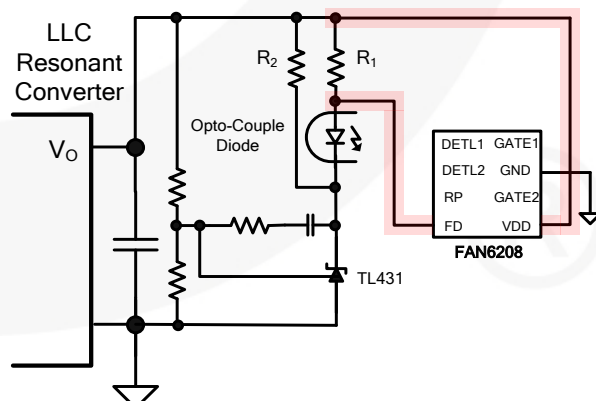
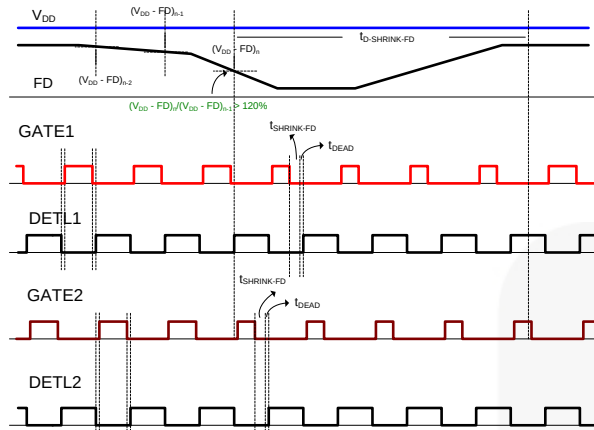
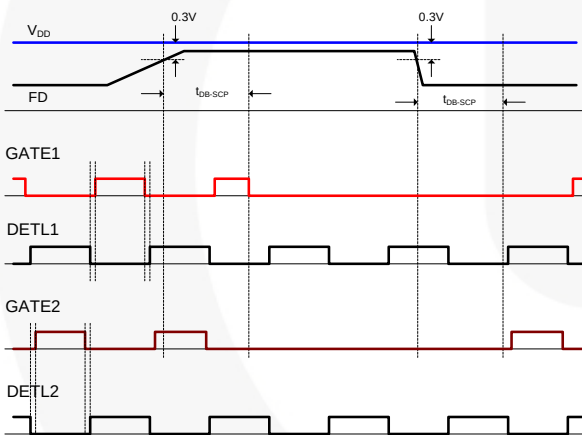

Figure 13. Typical Application Circuit
Figure 14. Gate Shrink by Feedback Detection
Figure 19. Output Short Protection by Feedback Detection
- (b) When the feedback information changes fast. FAN6208 monitors the current through the opto-coupler diode by measuring the voltage across the resistor in series with the opto-coupler diode, as depicted in Figure 13. If the feedback current through the opto-coupler diode increases by more than 20% of the feedback current of the previous switching cycle, the SR gate signal is shrunk by $t_{SHRINK-FD}$ (about 1.4 μ s) for $t_{D-SHRINK-FD}$ (about 90 μ s), as shown in Figure 14.
As depicted in Figure 13, FAN6208 monitors the current through the opto-coupler diode by measuring the voltage across the resistor in series with the opto-coupler diode. When the output of the power supply is short circuited, the output voltage drops and the cathode of the shunt regulator (KA431) is saturated to HIGH. No current flows through the opto coupler diode. The output short protection is triggered when the voltage between V_{DD} and FD is smaller than $0.3\ \text{V}$, as shown in Figure 19.